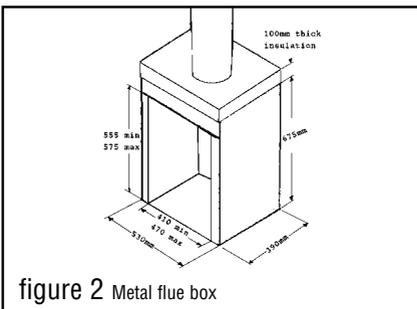

figure 2 Metal flue box
2.2.2 To a fireplace incorporating a metal flue box complying with the constructional requirements of the current edition of BS715. The dimensions of the flue box must conform to those shown in figure 2.